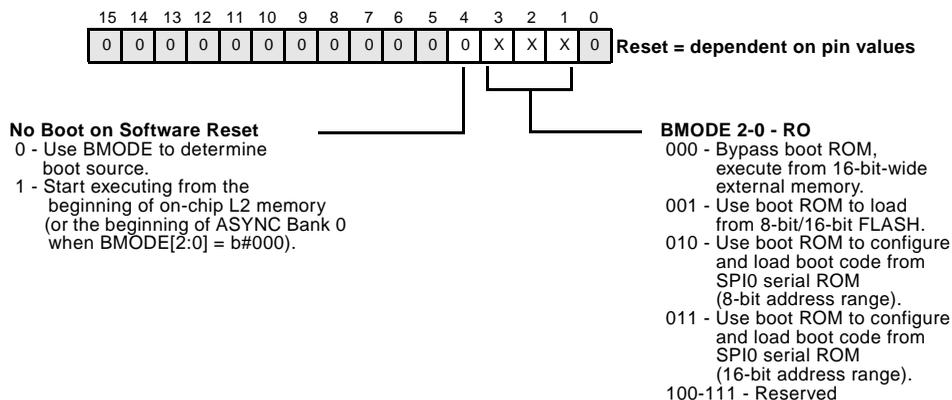

Figure 5-3. ADSP-BF535 System Reset Configuration Register (SYSCR)
2. Checks whether the `RESET` was a software reset and if so, whether the user wants to skip the whole boot sequence and jump to the start of L2 memory ( $0xF000\ 0000$ ) for execution. The On-Chip Boot ROM does this by checking bit 4 of the Reset Configuration Register (`SYSCR`). If bit 4 is not set, the On-Chip Boot ROM performs the full boot sequence. If bit 4 is set, the On-Chip Boot ROM bypasses the full boot sequence and jumps to  $0xF000\ 0000$ . See Figure 5-3 as an example of `SYSCR` register bit descriptions.